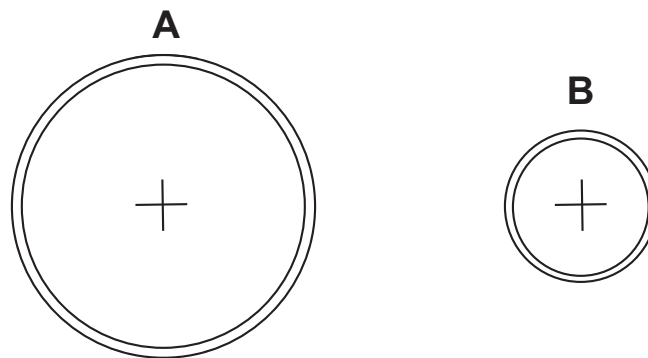

Fig. 13
- (ii) It was necessary to amend the position of the motor and gear wheel **A**. They had to be moved towards the middle of the lorry to balance the load. This resulted in gear wheels A and B being separated as shown in **Fig. 13**. Suggest a modification to the gear train to enable the gear train to function again.